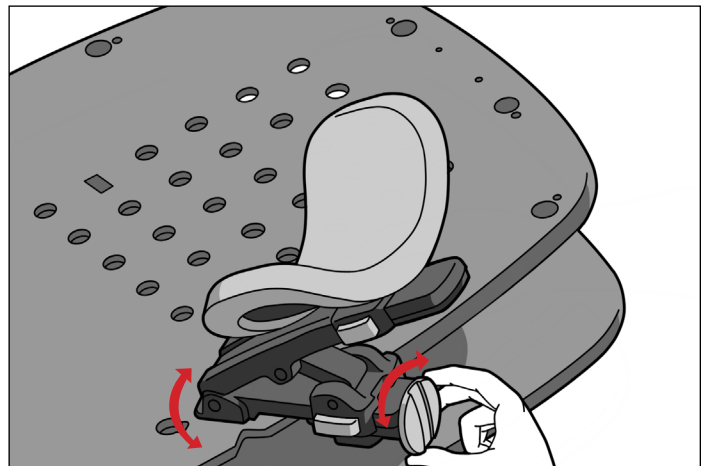

FIG. 12
2. To adjust the rotation of the Arm Support, loosen knob and rotate the Arm Support to the desired location and tighten the knob. (Fig. 12)